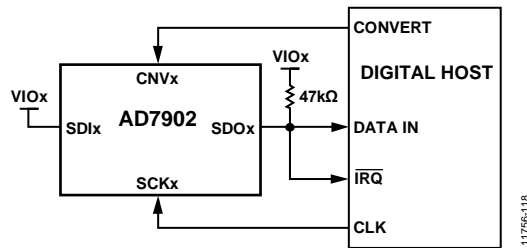
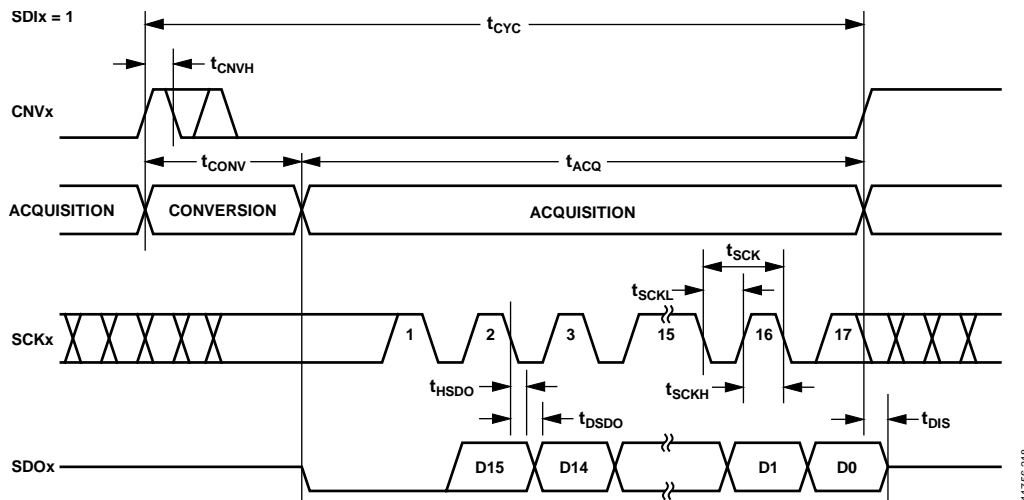
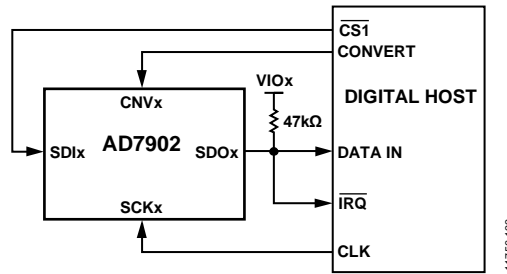
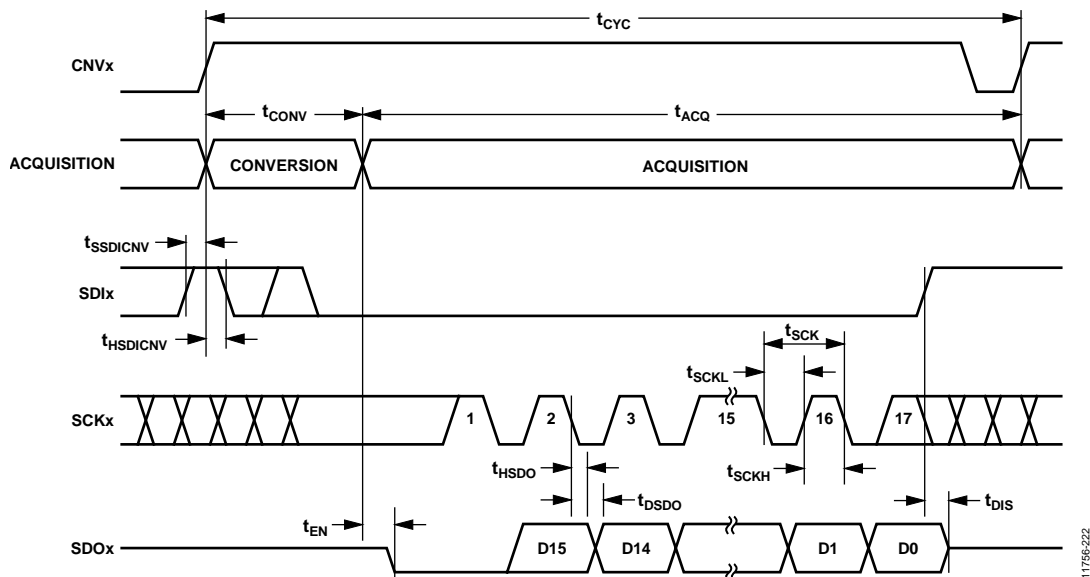

Figure 40. \overline{CS} Mode, 3-Wire Interface with a Busy Indicator Connection Diagram (\overline{SDIx} High)
Figure 41. \overline{CS} Mode, 3-Wire Interface with a Busy Indicator Serial Interface Timing (\overline{SDIx} High)
Figure 44. \overline{CS} Mode, 4-Wire Interface with a Busy Indicator Connection Diagram
Figure 45. \overline{CS} Mode, 4-Wire Interface with a Busy Indicator Serial Interface Timing
- In \overline{CS} mode when CNVx or SDIx is low when the ADC conversion ends (see Figure 41 and Figure 45).
The connection diagram is shown in Figure 40, and the corresponding timing is shown in Figure 41.
The connection diagram is shown in Figure 44, and the corresponding timing is given in Figure 45.